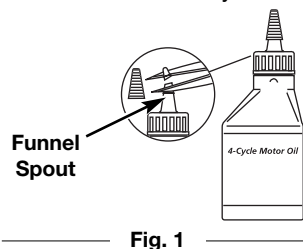

Fig. 1
Your unit is supplied with one 3.04 fluid oz. (90 ml.) bottle of SAE 30 SF, SG, SH oil (Fig. 1).
seal covering the opening. Replace the top. Next, cut the tip off the funnel spout (Fig. 1).
1. Push the D-handle down onto the shaft housing and push it on the boom (Fig. 1). The squared bolt hole in the handle is to the right.